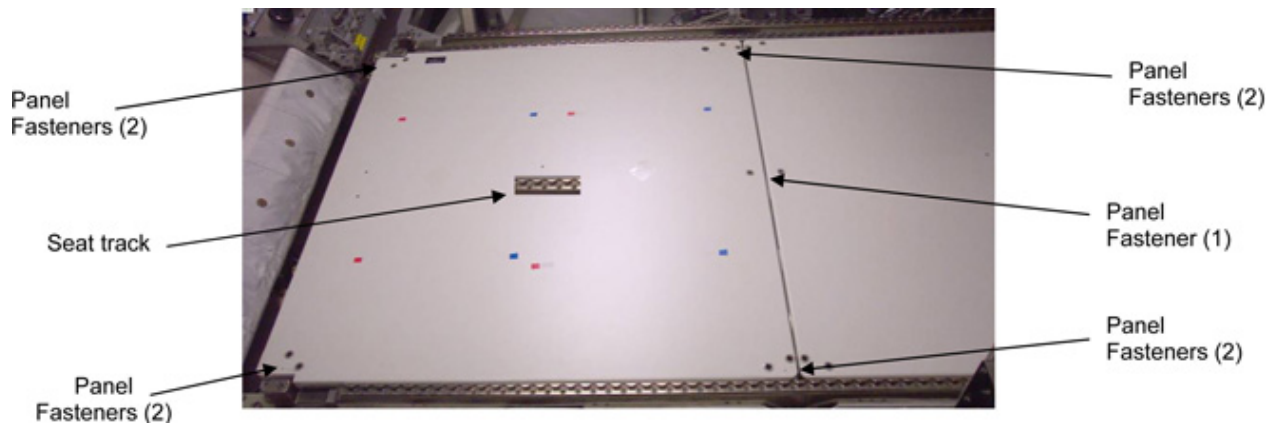

Figure 2. Deck Rack Floor Panels (Fastener Locations, Typical)
- 2.3 Unscrew panel fasteners (9), any order (Ratchet Wrench, 1/4"; 102 mm Extension, 1/4" Drive; T30 Torx Driver, 1/4" Drive). Refer to Figure 2.